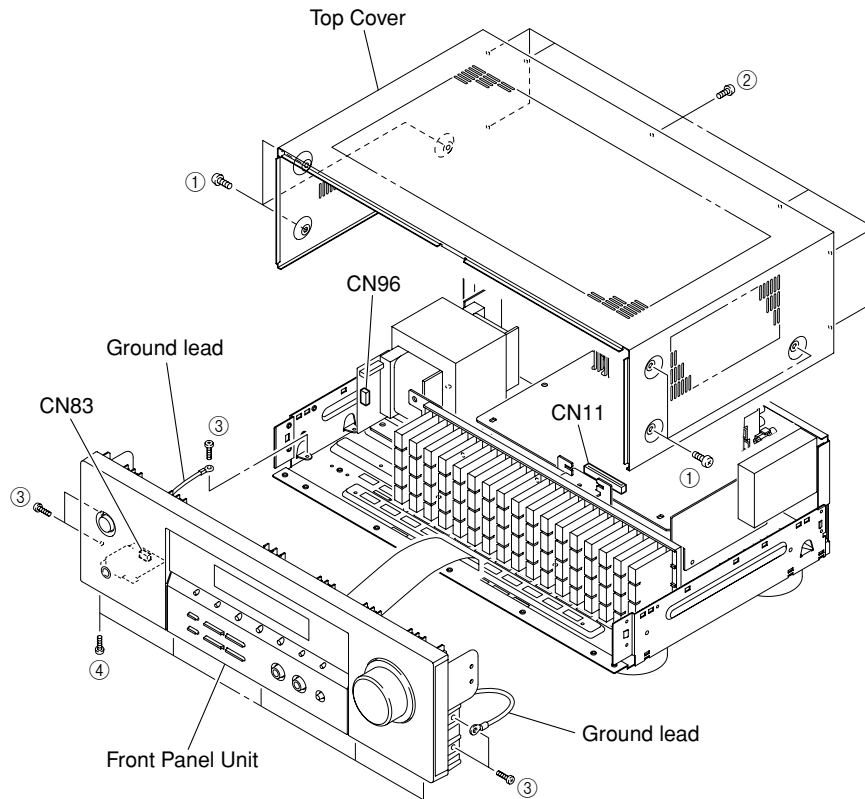

Fig. 1
- Remove 6 screws (①) and 7 screws (②) (Fig. 1)
- Slide the Top Cover rearward to remove it. (Fig. 1)
- Remove CN11, CN83, CN96. (Fig. 1)
- Remove 5 screws (③) and 5 screws (④). (Fig. 1)
- Release a hook on the right side of the Front Panel Unit, then remove the Front Panel Unit forward. (Fig. 1)